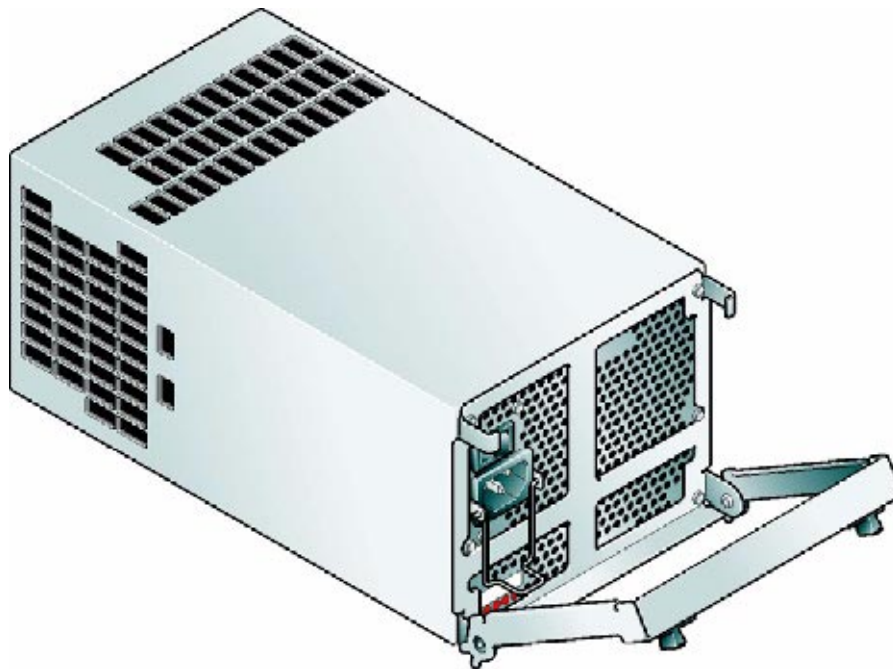
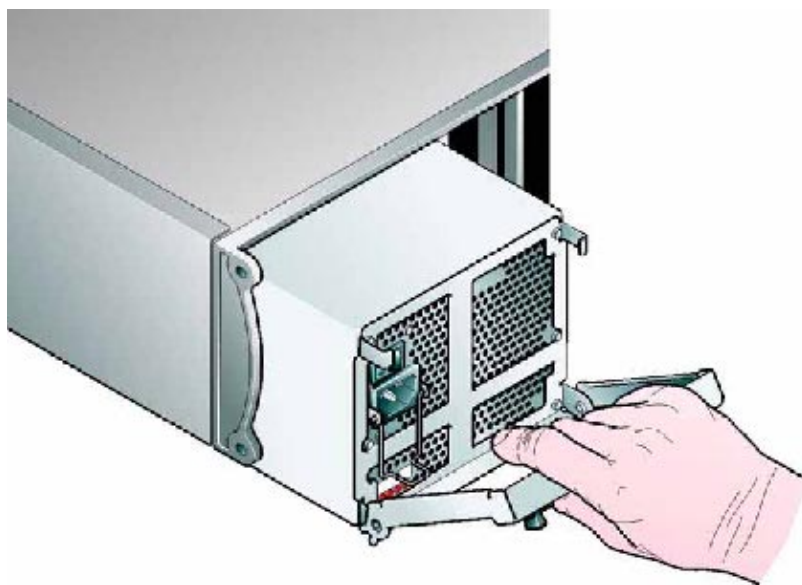

Figure 2-4 AC Power Supply/Cooling Module - Handle in Open Position
Figure 2-5 Installing an AC Power Supply Cooling Module (1)
- 2 With the PSU handle in the open position (**Figure 2-4**), slide the module into the enclosure (**Figure 2-5**).